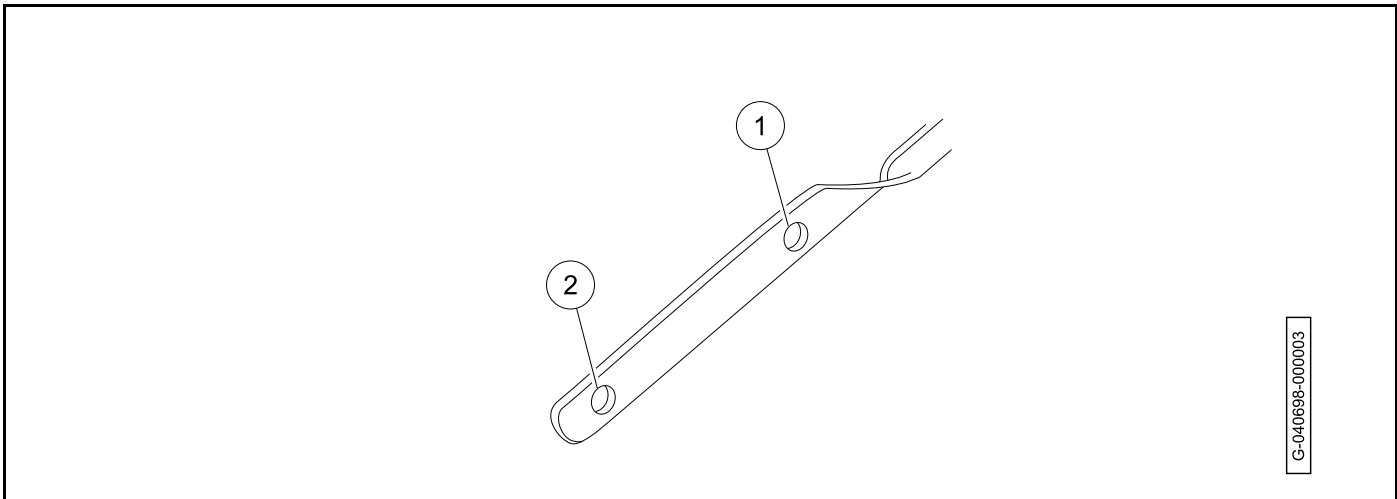

Figure 10-6 Dipstick Indicators
10. Make sure that the oil level is between the maximum (1) and minimum (2) indicators (**Figure 10-6, Page 10-12**).